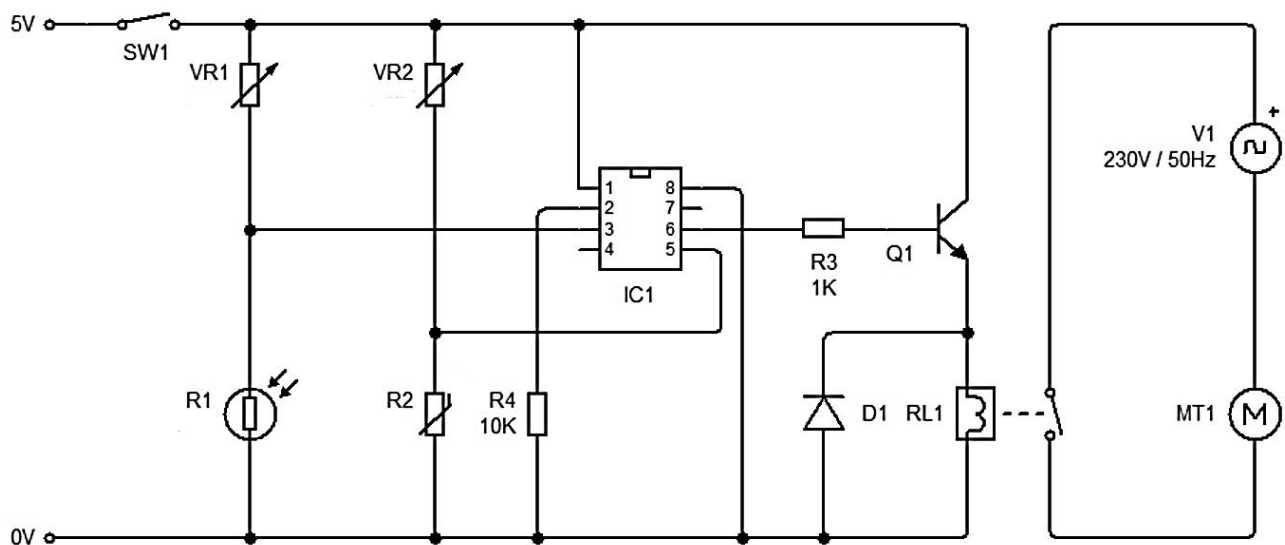

Figure 7
16. Figure 7 shows the circuit which controls the watering system of the greenhouse.
i. On Figure 7, circle this electronic component. (1)
- d. Describe the function of component D1 in the circuit shown in Figure 7.